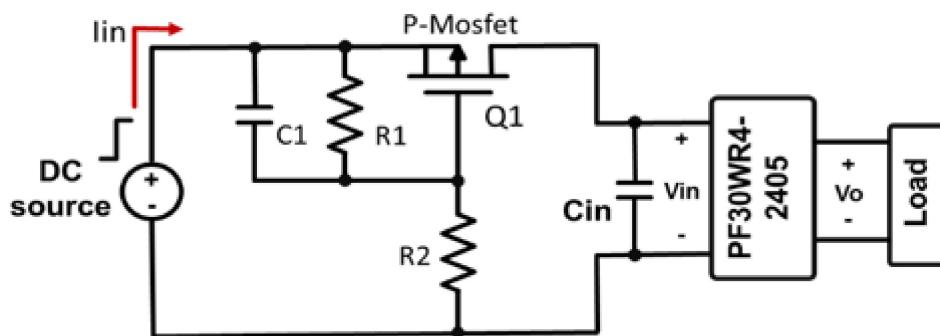

Figure 3.1 P-MOSFET Input current suppression circuit
Make an inrush current suppression circuit according to Figure 3.1, and use the formulas (1) to (4) to calculate the circuit parameters.